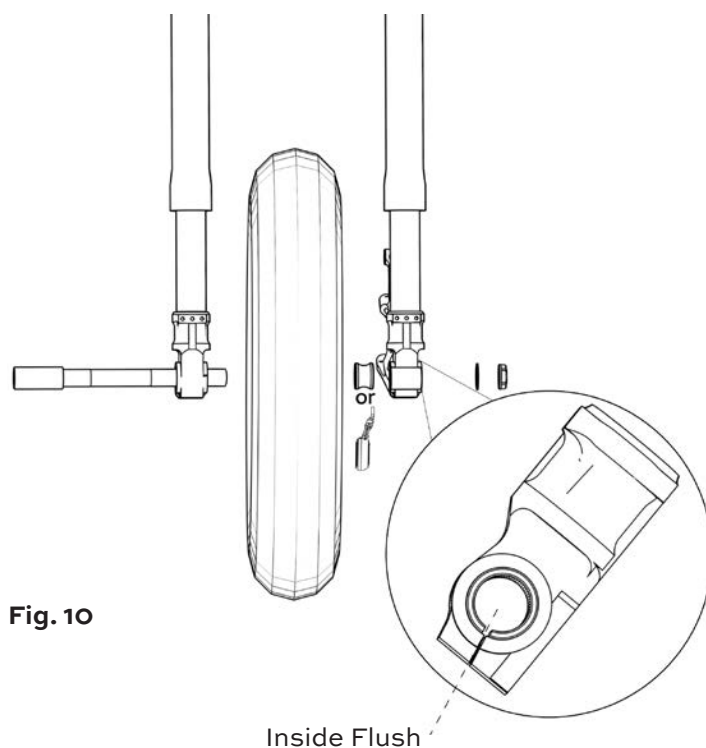

Fig. 10
2. Slide the axle through the Rebound fork starting with the smaller end. Axle will slide through fork, the wheel, then spacer, then other fork on the other side of the wheel. **If your bike does not have ABS, use OEM spacer in this position.** Slotted spacer is to be installed flush with the inside of the compression fork. **(See Fig. 10)**